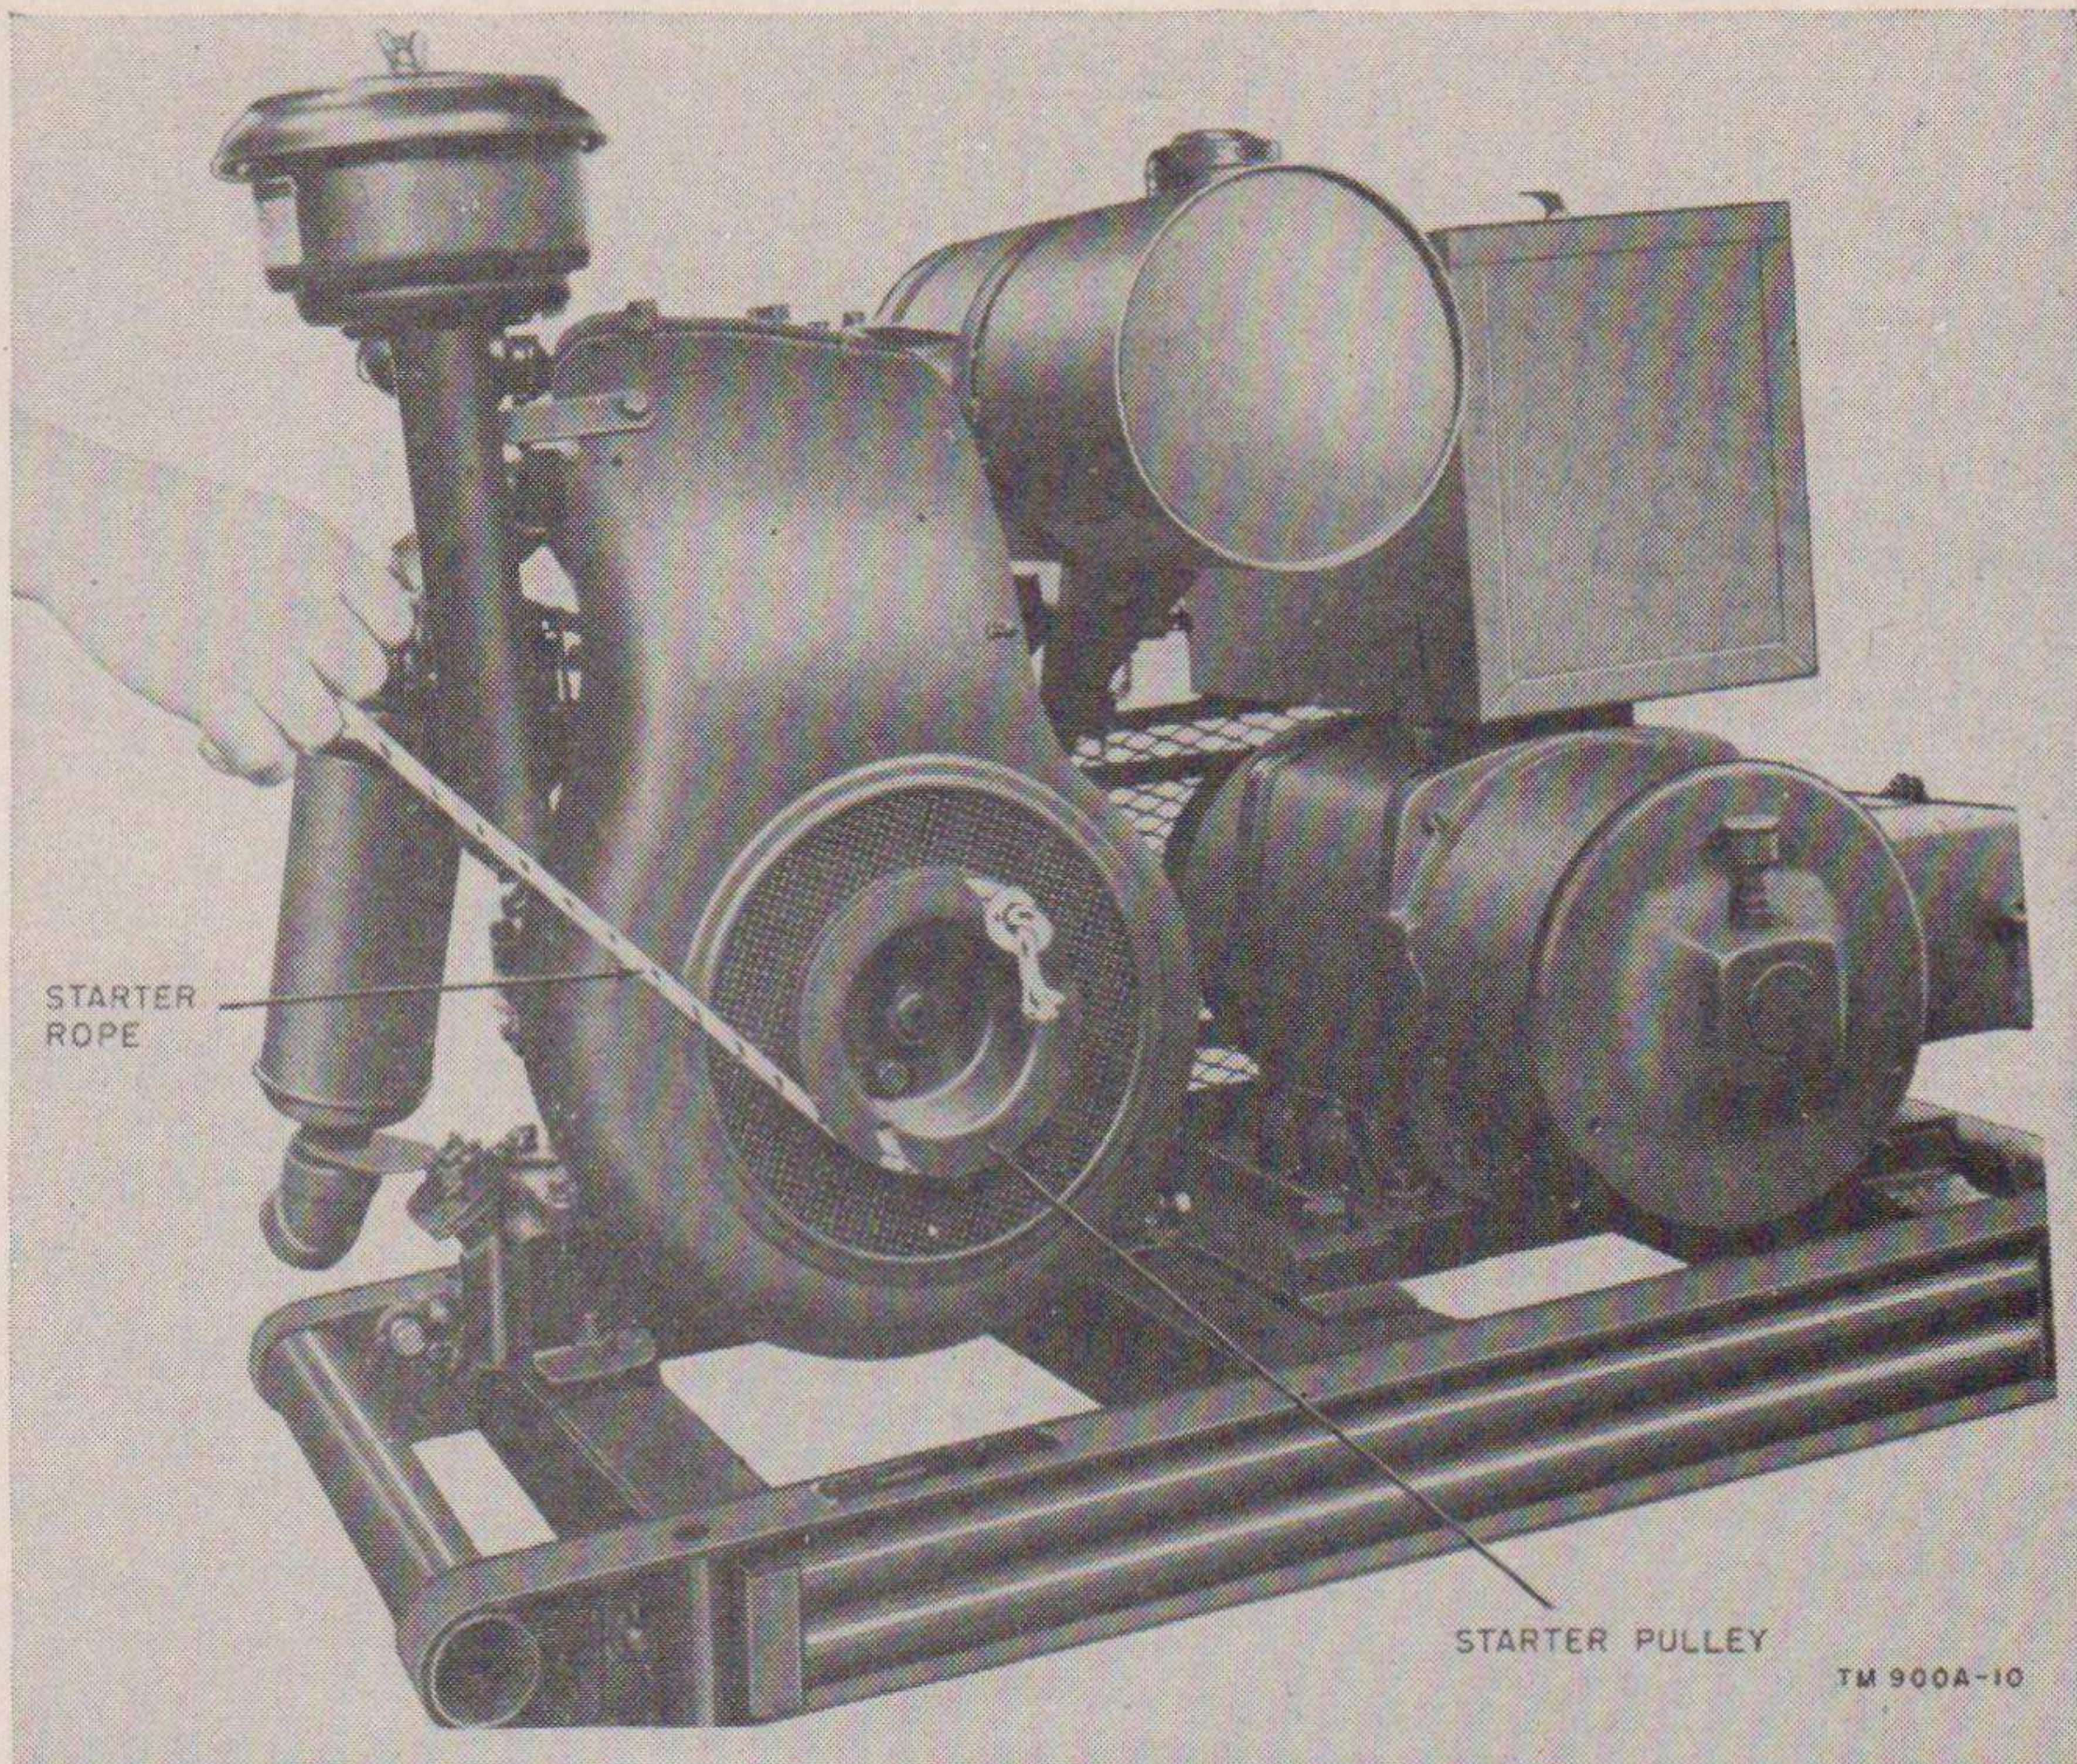

Figure 10. Starting power unit.
a. Place the starting rope in the starting pulley with the knot on the outside of the pulley. Wind the rope clockwise around the pulley (fig. 10).